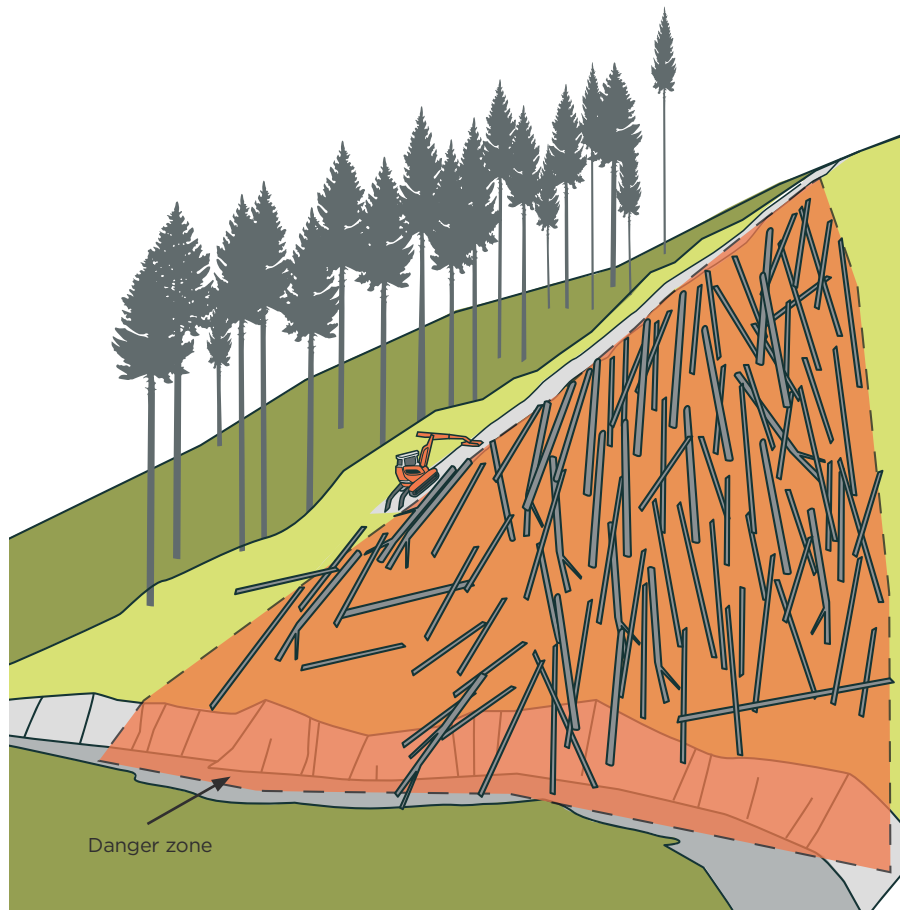

FIGURE 18:
20.3.4 Figure 18 shows the danger zone.